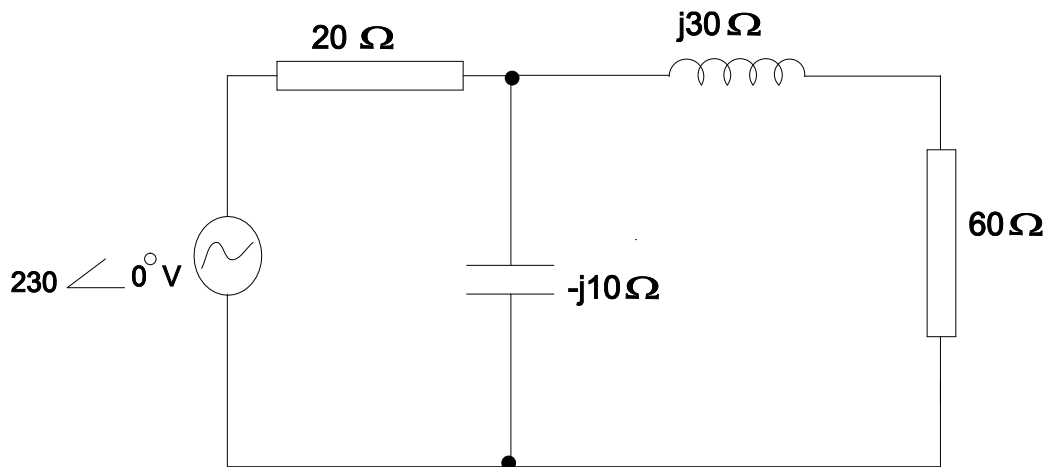

Figure 2
- b. In Figure 2 below, calculate the complex apparent power (S) delivered by the source, as well as the total real power (P) and the total reactive power (Q).